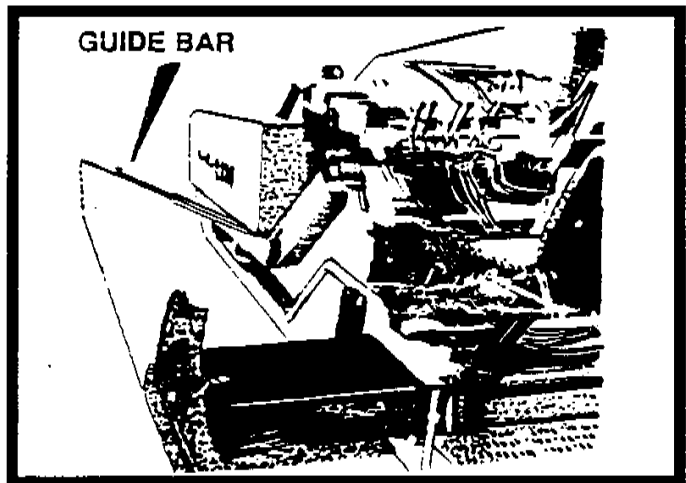

FIGURE 19
- B. Make sure to use a reference guideline. This can be a curb, gutter, adjacent mat or a string line. It is important that the first pass be straight. It will be the guideline for the following passes. Use the guidebar gauges as shown in Figure 19.